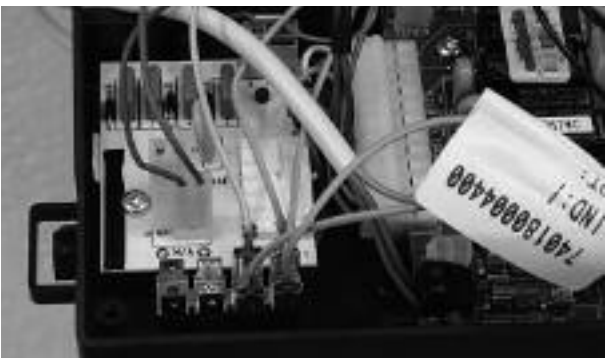

Fig. 92
4. Remove the pump plug from the control board and earth plug from earth socket (see Fig. 92);